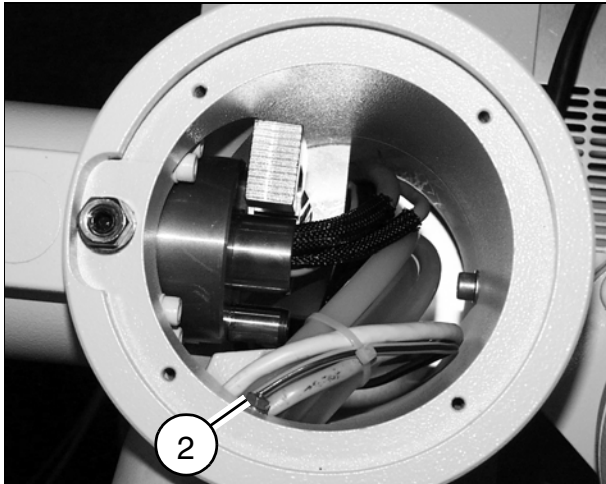

Fig. 23
- Remove the column cover (Fig. 23).
- Unscrew the corrugated tubing (2/Fig. 23).